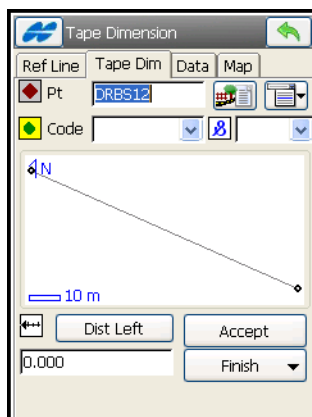

Figure 8-56. Tape Dimension – Tape Dim Tab
2. On the *Tape Dimension* tab, set the parameters for performing the survey: the name and code of the surveyed point, and the direction (left or right of the previous line) and the distance of the movement from the previous point (Figure 8-56).